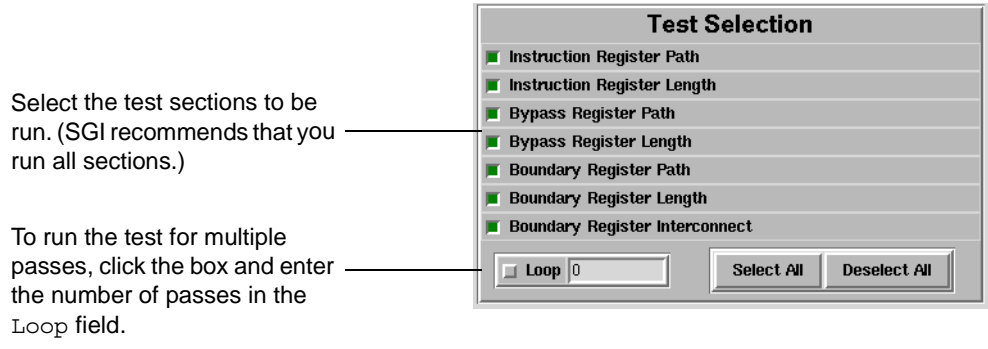

Figure 2-6 Setting the Test Selection Parameters
7. Select the test sections that you want to run. (Refer to Figure 2-6.) SGI recommends that you run all test sections.